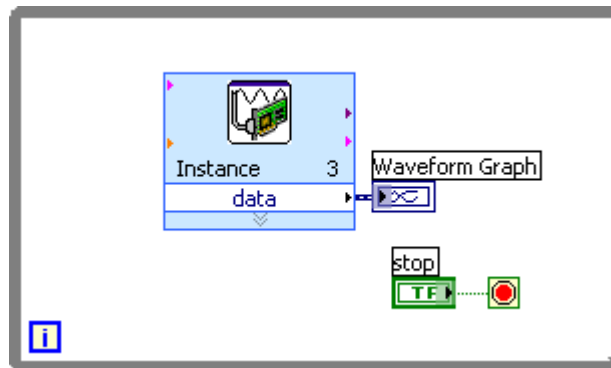

Figure 2: Our Simple Data Acquisition Program
10. Place a while loop around the DAQ Assistant by right clicking and selecting **Structures >> While Loop** (see Figure 2). Right click on the Data output of the DAQ Assistant and select Create >> Graph Indicator. Right click on the Stop terminal and select “Create Control” to create a Stop button.